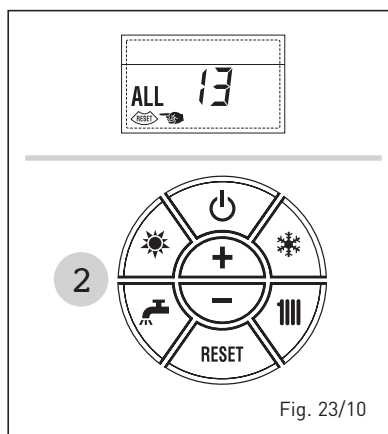

Fig. 23/10
– **ANOMALIA Sonda FUMOS “ALL 14”** (fig. 23/11)